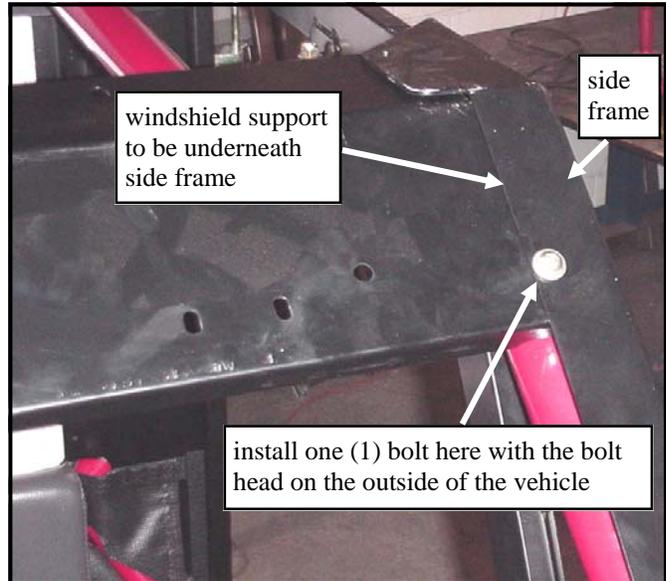

Fig. 6.1
6.1 Position the windshield support underneath the left side frame as shown in Fig. 6.1. Install one (1) bolt through hole and into weldnut. Use a 3/4" long button head bolt. The five (5) rear holes will receive hardware once the roof is installed in step 9 on the next page.
6.2. With assistance, install the right side frame so that the windshield support is inside (underneath) the side frame similar to Fig. 6.1. Important: place the front of the side frame over the front of the cab bar system and pivot the rear of the side frame into place so that the rear leg of the side frame installs behind the rear roof mount which was installed in step 4. If installing a hard sided cab, the rear leg of the side frame is to be in front of the rear window. NOTE: make sure the ball stud mount, which is for the windshield gas shock, is over the cab bar tube before pivoting into place. Ref.: handle with care so the Expand-a-foam does not get distorted or damaged while pivoting. Install one bolt through hole and into weldnut. Use a 3/4" long button head.